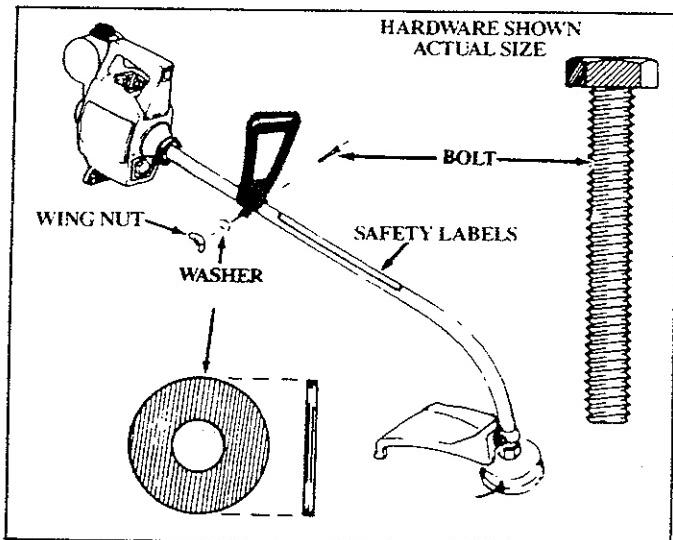

Figure 5
4. ASSIST HANDLE — Figure 5
- a. Hold the Assist Handle so it is leaning back toward the Engine and aligned between the Engine and the Safety Label. Figure 5.
- b. Firmly push the Assist Handle over the Drive Shaft Housing. Figure 5.
- d. Install the Washer and Wing Nut. Figure 5.